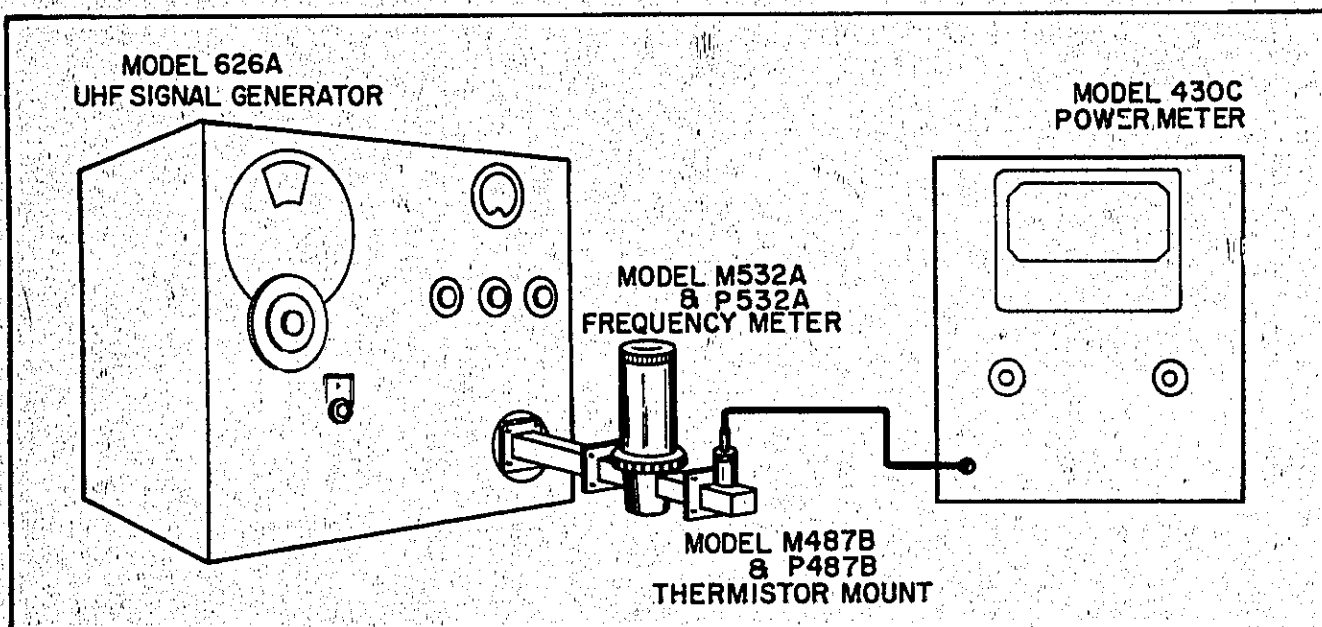

Figure 5-16. Test Setup for Adjusting Output Power
- a. Connect test setup as shown in Figure 5-16.
- a. Connect test setup as shown in Figure 5-16 using M-band equipment.
- a. Connect test setup as shown in Figure 5-16 using P-band equipment and the Model MP292B Adapter.